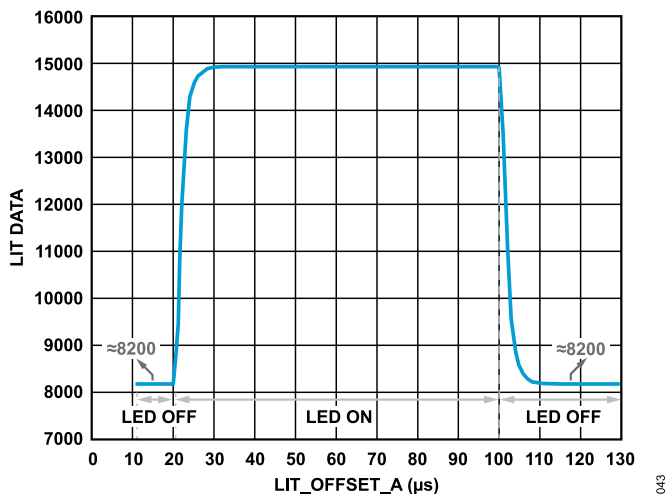

Figure 44. Timing of CT_DBLP3112 (Green LED)
- Plot the mean value of the lit data and LIT_OFFSET_A. The response time of the optical device (for example, CT_DBLP3112) is shown in Figure 44.